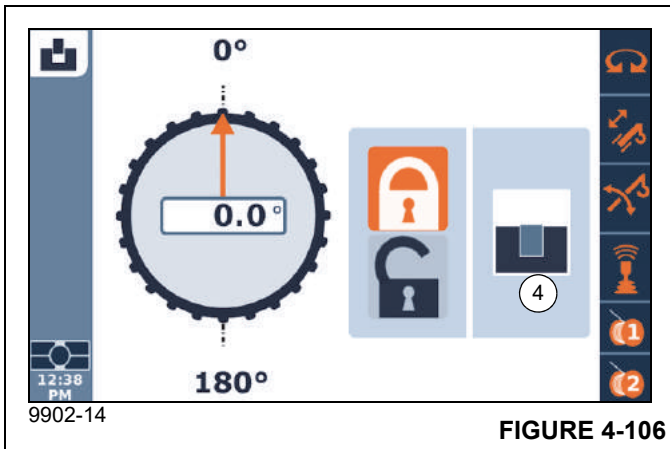

FIGURE 4-106
In Figure 4-106, the Swing Lock Status Indicator (4) shows the swing lock is in the locked position.
When the lock is engaged, the Locked Status Indicator (4, Figure 4-106) will appear.